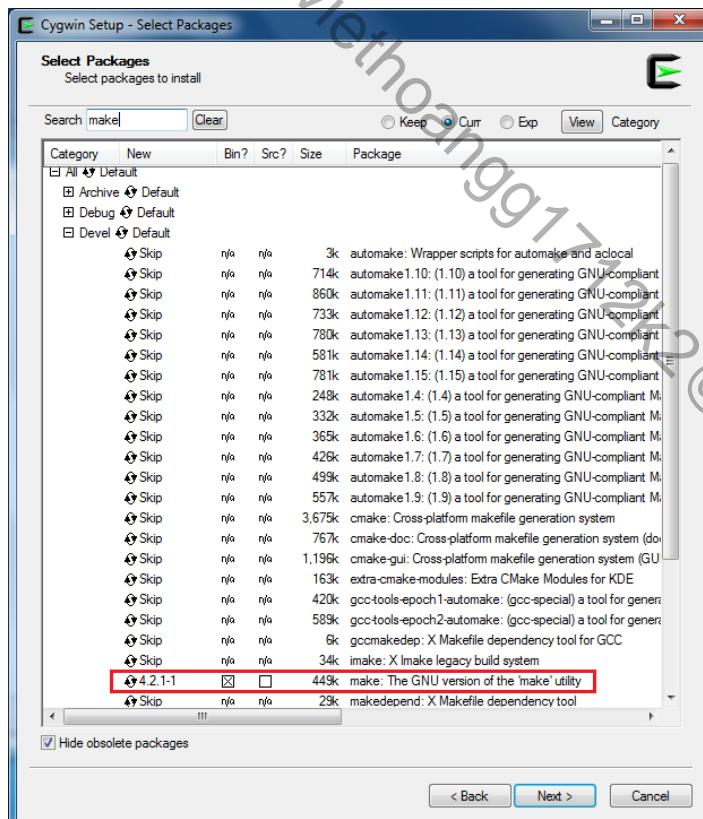
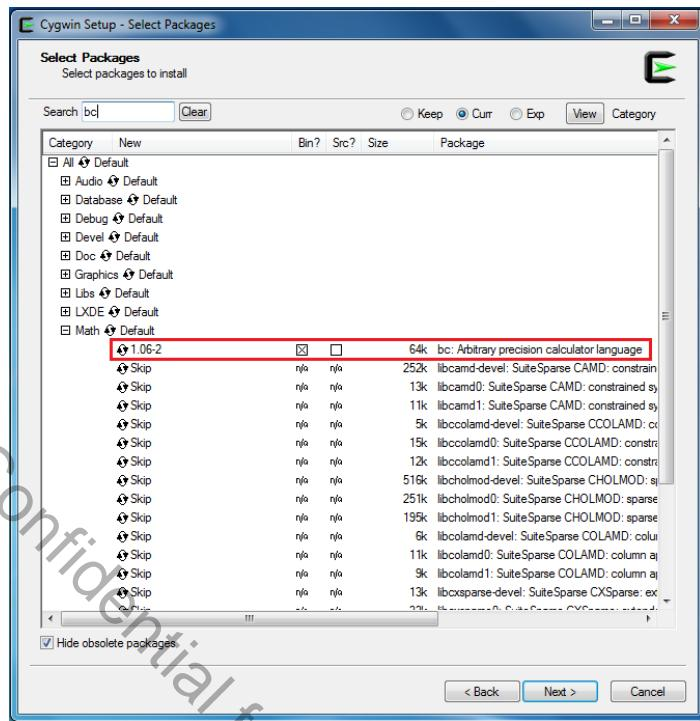

Fig 1-1 ‘Devel’ setting during Cygwin installation
Fig 1-2 ‘Math’ setting during Cygwin installation
- During the installation of Cygwin package, include ‘Devel-> make’ and ‘Math -> bc’ utilities on the **Select Packages** step, as Fig 1-1 and Fig 1-2 shows.